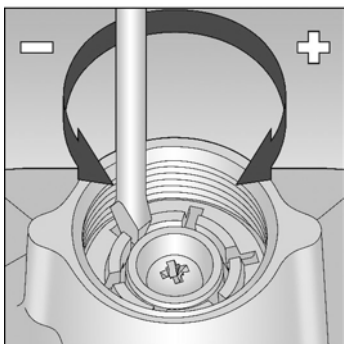

Fig. 6
6. Insert a flat bladed screwdriver into one of the partial slots on the OPSS spring holder. See Fig. 6.
15. Slowly turn OPSS spring holder anticlockwise (-) until OPSS device trips off. See Fig. 6.